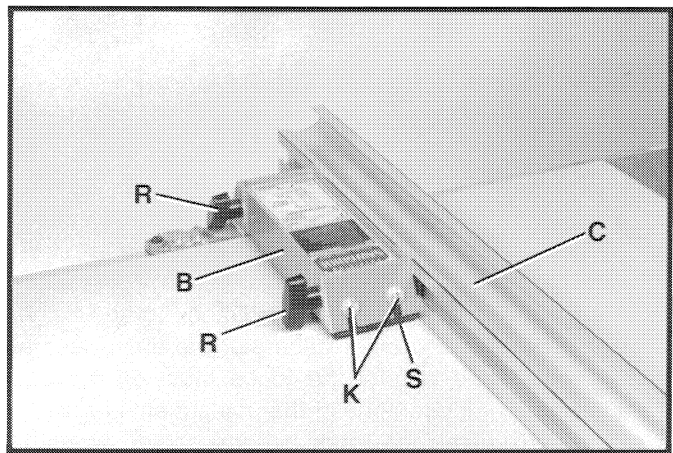

Fig. 79
1. Loosen two knobs (R) Fig. 79, and remove fence (C). Make sure fence body (B) is clamped to front rail. Check to see if foot (S) is flat with the table surface. If an adjustment is necessary, loosen two screws (K) Fig. 79, and adjust foot (S) so it is flat on table surface. Tighten screws (K) and re-assemble fence (C) on guide body (B).